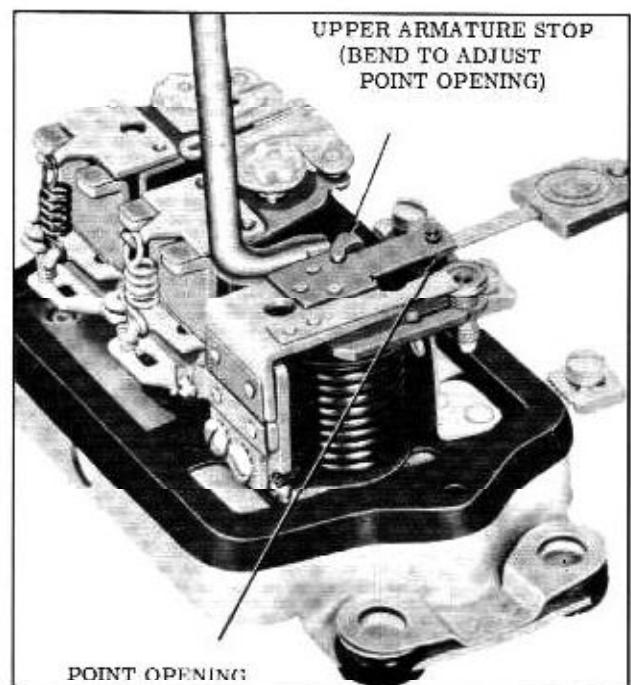

Fig. 13-34 Adjusting Point Opening
2. Check point opening and adjust to .020" by bending upper armature stop. (Fig. 13-34)